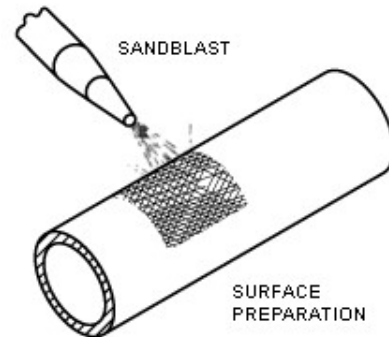

Figure 2
7) Surface Preparation (Figure 2)